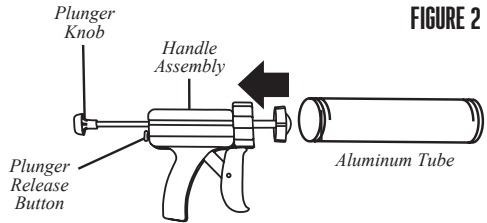

FIGURE 2
3. Push in the Plunger Release Button and pull the Plunger Knob back until it is in the fully retracted position (**Figure 2**).